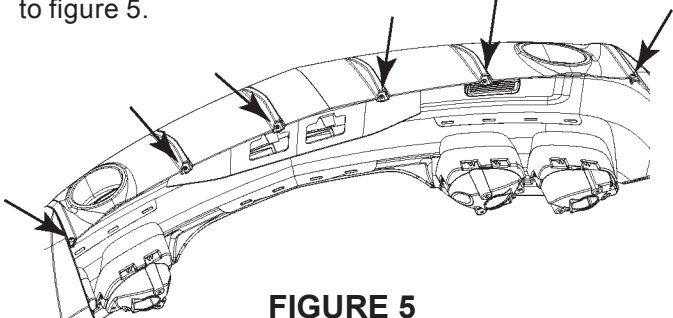

FIGURE 5
8. Remove 6 screws using 7mm socket, retain 4 of 6. Refer to figure 5.